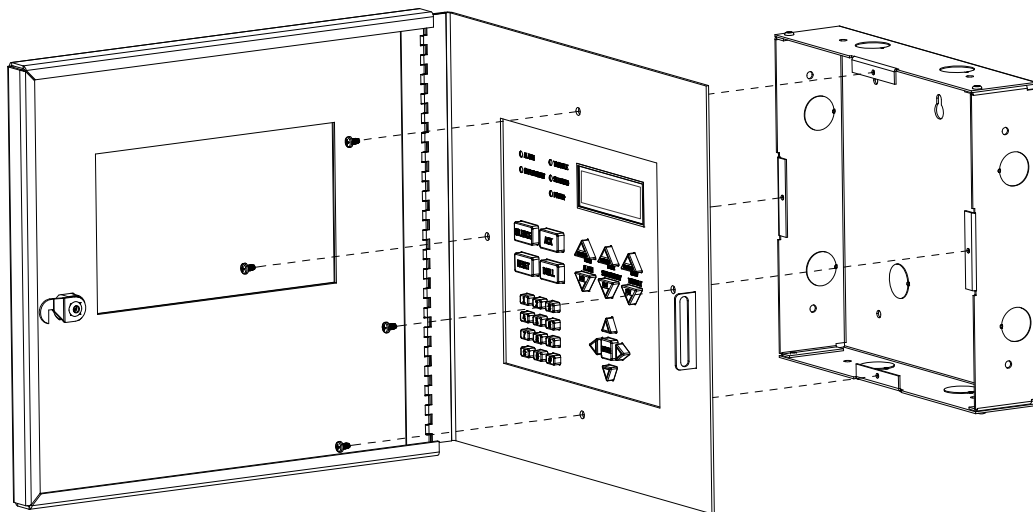

Figure 4.15 Attaching Annunciator/Door Assembly to Backbox
9. Attach the door assembly to the backbox using the screws provided. Refer to Figure 4.15.